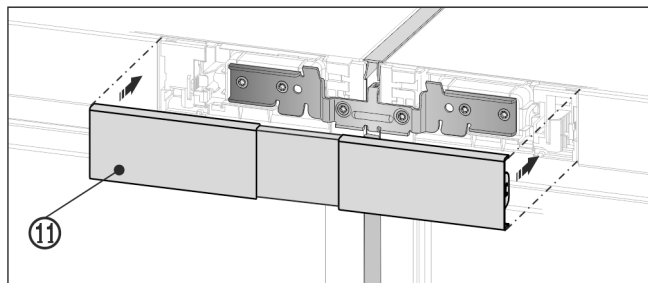

Fig. 29
- ▶ Snap the top cover Fig. 29 (11) onto the still open gap between the two control panel trims. Make sure that the outer sides of the cover form a flush finish with the control panel trims.